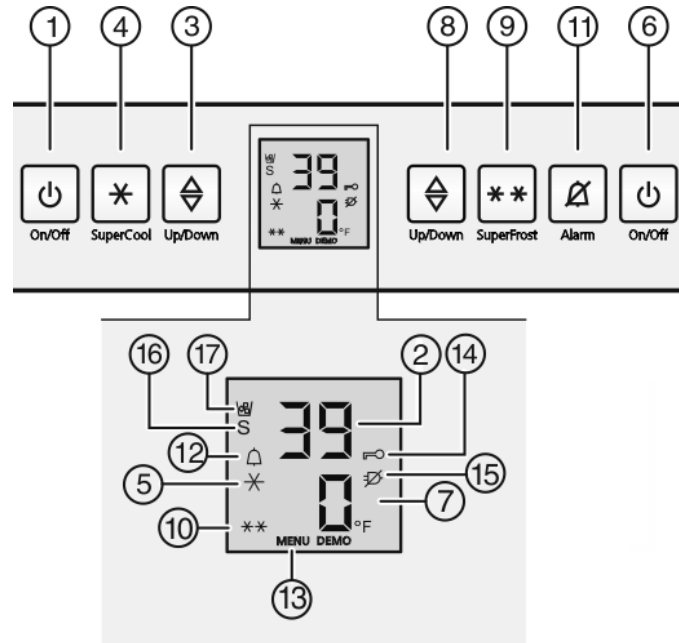

Fig. 3
- ▶ Press the Freezer compartment On/Off button *Fig. 3 (6)*.
- ▶ Press the Fridge compartment On/Off button *Fig. 3 (1)*
- ▶ Activate setting mode: Press SuperFrost button *Fig. 3 (9)* for about 5 seconds.
- ▷ The Menu symbol *Fig. 3 (13)* lights up.
- ▶ Use the Set freezer compartment button *Fig. 3 (8)* to select °.
- ▶ To confirm: Briefly press SuperFrost button *Fig. 3 (9)*.
- ▶ Select °F oder °C with the Freezer compartment set button *Fig. 3 (8)*.
▶ To exit setting mode: Press Freezer compartment On/Off button *Fig. 3 (6)*.
- ▶ To activate setting mode: Press and hold the SuperFrost button *Fig. 3 (9)* for approx. 5 seconds.
- ▷ In the display, the Menu Symbol *Fig. 3 (13)* is displayed.
- ▶ Use the Set freezer compartment button *Fig. 3 (8)* to select c.
- ▶ Confirm briefly by pressing the SuperFrost button *Fig. 3 (9)*.
- ▷ The Child Safety symbol *Fig. 3 (14)* lights up on the display.
- ▶ Press the freezer compartment On/Off button *Fig. 3 (6)* briefly.
▶ Press Alarm button *Fig. 3 (11)*.